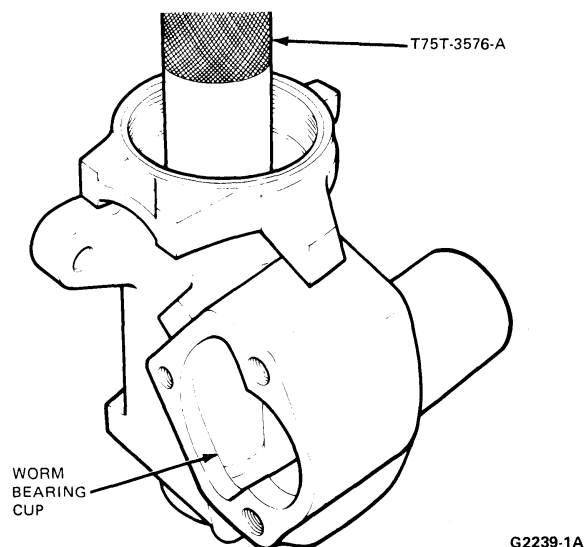

FIG. 15 Installing Wormshaft Upper Bearing Cup in Housing
2. Press the new bearing cup into position using Tool T75T-3576-A (Fig. 15).